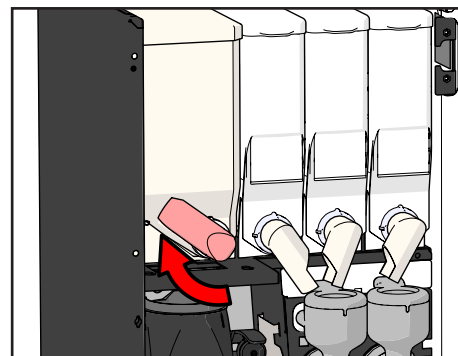

Figure 69. Turn coffee canister outlet upwards
2. Fresh Brew: Turn the coffee canister outlet upwards (see Figure 69). This prevents spillage.